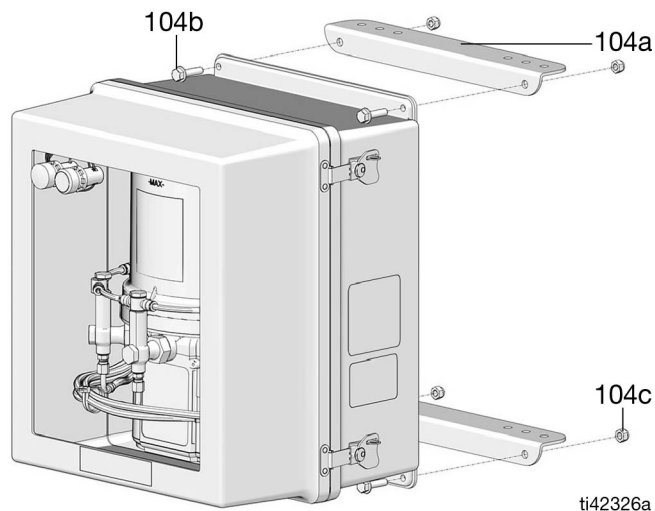

FIG. 2
4. Mount the remaining brackets (104a) to the G5 In A Box enclosure, using M8-1.25x30 bolts (104b) and M8-1.25 lock nuts (104C) and torque to 200 in-lb/ (22.6 N•m) (FIG. 2).